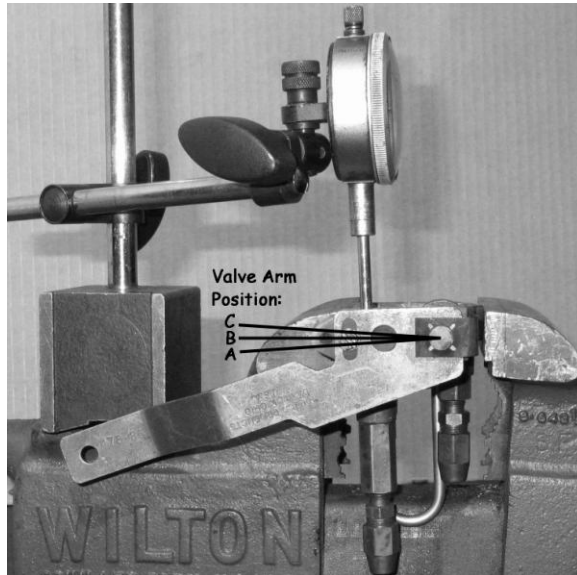

Figure 3
6. Locate dial indicator in position as shown in figure 2. Move overtravel lever to full air exhaust position without overtraveling (position "C", figure 3). Relocate indicator push rod to just contact 1-3/8" mark on control body and reset indicator dial to zero (0) at this point (position "C", figure 3). Note: Use this indicator location for all valve measurements and adjustments.
7. Move overtravel lever to full air intake position without overtraveling (position "A", figure 3). Take indicator reading which may vary from 0.160" to 0.190"
9. Divide the total travel dimension by two (example:  $0.170" / 2 = 0.085"$ ), then move overtravel lever back this amount (0.085") to the center (position, "B", figure 3). This is the valve true center position.